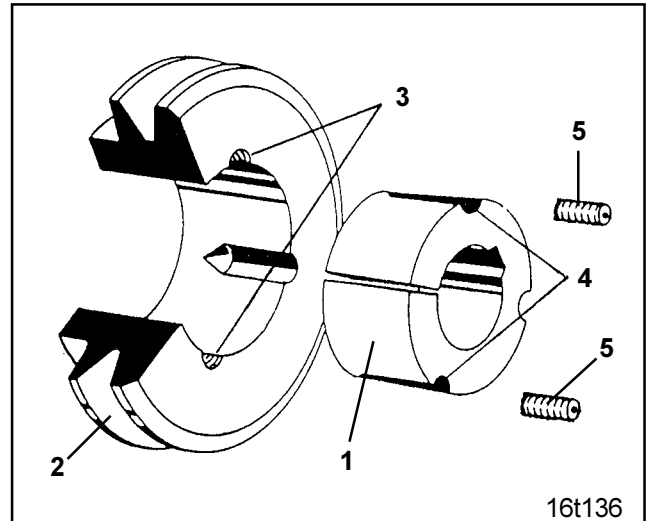

Fig. 7.8
- Clean all bright surfaces of the taper tensioning bushing (Fig. 7.8/1) as well as the tapered bore of the V-belt pulley (Fig. 7.8/2)
- Insert the taper tensioning bushing into the tapered bore of the V-belt pulley in such a way that all connecting bores coincide (half threaded bores [Fig. 7.8/3] must be opposite half smooth bores [Fig. 7.8/4])
- Bolt tensioning bolts (Fig. 7.8/5) into the threaded holes facing each other and tighten with spanner for hex. nuts DIN 911. To improve the seating of the inner bushing knock it when tightening.
The torque of the tensioning bolt (Fig. 7.8/5) is for
Retighten bolts (Fig. 7.8/5) of the taper tensioning bushings after the first hour of operation.
- Slacken tensioning bolt (Fig. 7.8/5) with Allen key